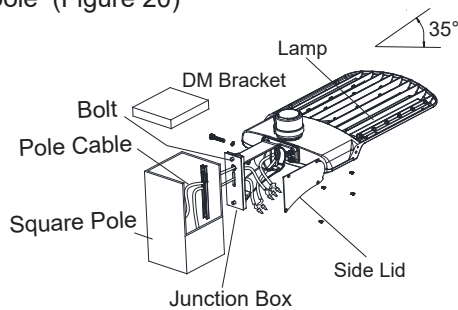

Figure 18
Step 1: Fix DM bracket to square pole with bolt, open the side lid of DM bracket, pull the wire into junction box, and connect the wire correctly. (Figure 18)
Notice: Adjustable angle is 0-35°(Figure 18).